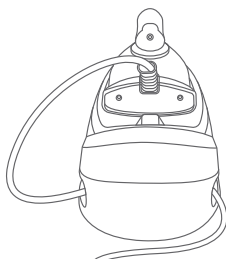

Fig.1
1. Place the steam station base (5) on a stable, level and firm surface.
2. Remove the steam supply hose (12) from the storage compartment (6). Unwind the steam supply hose and the power cord completely (13).
3. Make sure that the iron is placed correctly on the thermal insulated platform (11) (see Fig.1).